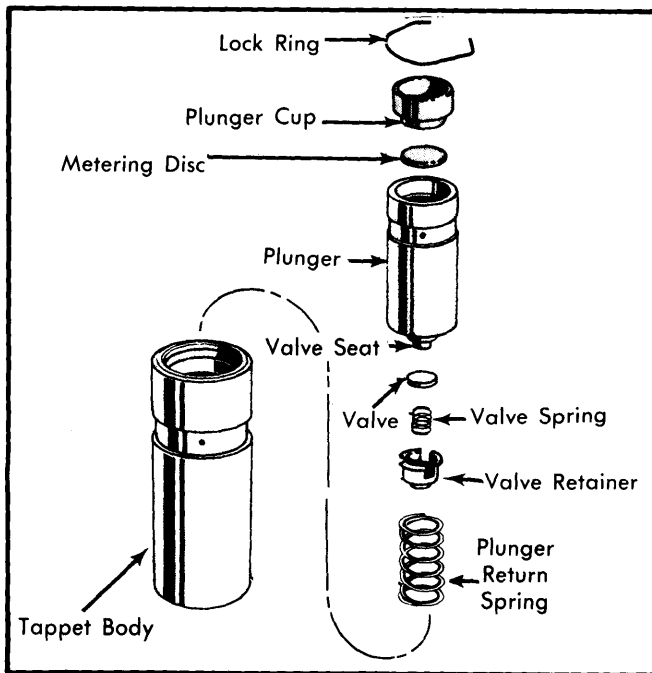

Fig. 2 Hydraulic Valve Lifter Assembly
2) Inspect lifter face for concave wear and if present, replacement of camshaft and lifters is necessary. If lifters are disassembled for cleaning and inspection, after reassembly (see Fig. 2), they should be tested using suitable leak down tester according to manufacturer's instructions.